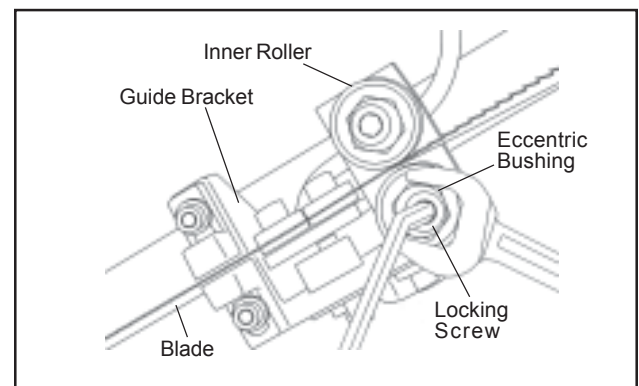

Figure 14: Adjustment of guide bearings
3. Hold the bushing with a 3/4-inch wrench and loosen the center locking screw with an Allen wrench (see figure 14).